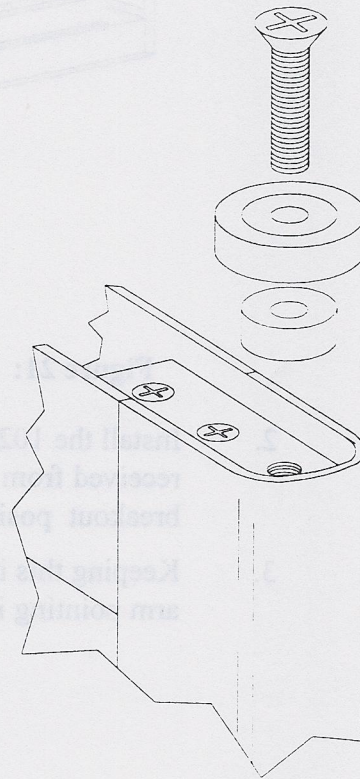

Figure 20: Installing the top roller on the door.
3. The roller block is already installed in the leading edge of the top rail, but the roller itself must still be secured to the block. Position the spacer and roller over the roller block as shown in Figure 20. Secure them to the door with the 5/16-18 screws provided.